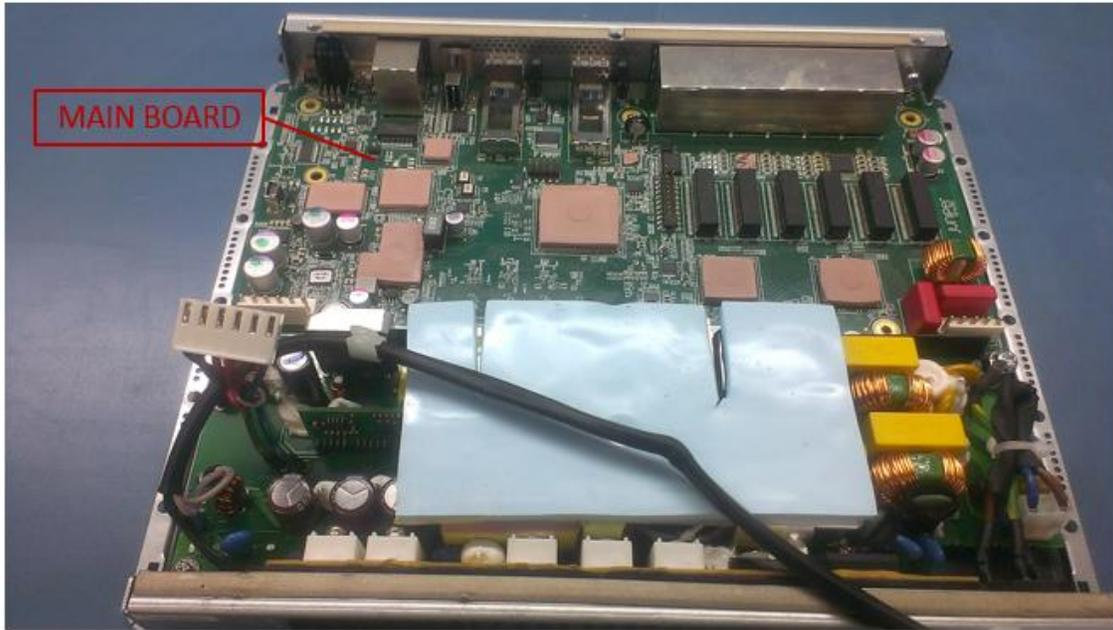

Figure 3-3: Open Chassis
5. Remove the top of the chassis for Main board access (Figure 3-3)